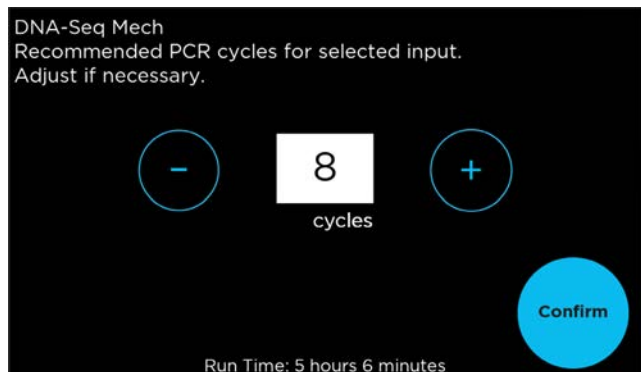

Figure 13. Confirm or adjust the number of PCR cycles for your run.
7. Select the optimal number of PCR cycles for your input. The recommended number of PCR cycles will be populated based on your sample input quantities (Table 2). You may adjust the number of PCR cycles to suit your particular samples (Figure 13).